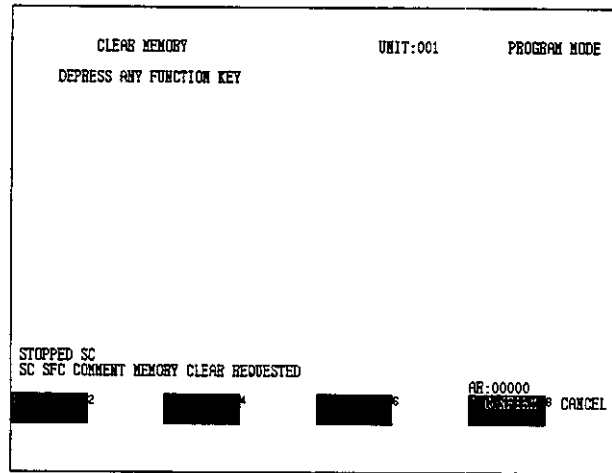

Figure 6.31
- 8) The screen shown in *Figure 6.31* will be displayed depending on the Label Key that was pressed. (See Note (5))